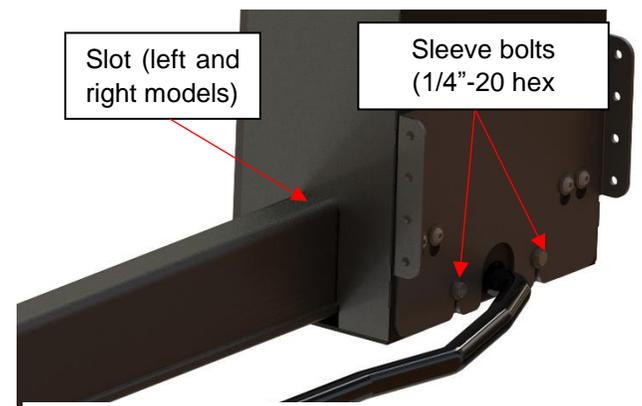

Figure 97
- ♦ When sliding the sleeves over the jacks, ensure the slot at the bottom of the outer sleeve is going to slide over the U-frame that covers the drive shaft. There are right and left models for sleeves (Figure 97)
- 17) Tighten 1/4-20 hexagonal bolts at the bottom of all the sleeves bases. (7/16" (11 mm) socket wrench) ensure that the washer is outside of the outer sleeve. This will ensure the sleeve is held correctly (Figure 97). Repeat this step for all four jacks.